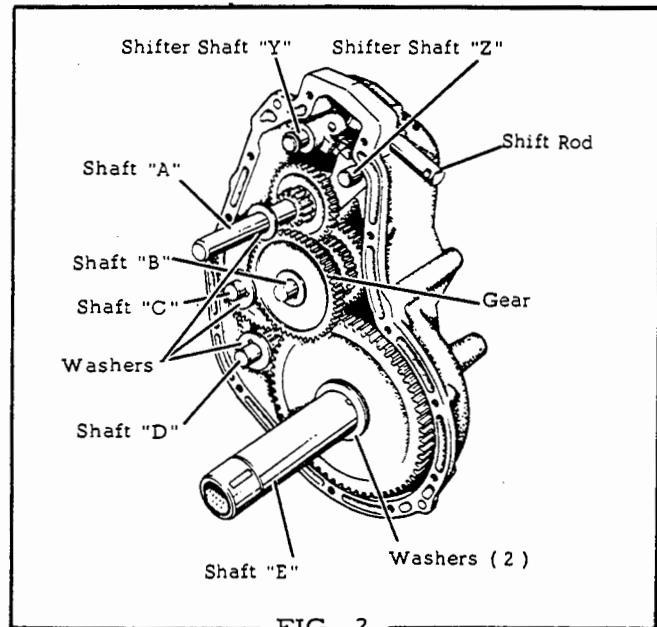

FIG. 2
3. Remove the flat washer from shaft 'A', shaft 'C', and shaft 'D'. Now remove the gear from the end of shaft 'B'. Remove the axle tube and gear assembly 'E' from the transmission case. See Fig. 2.